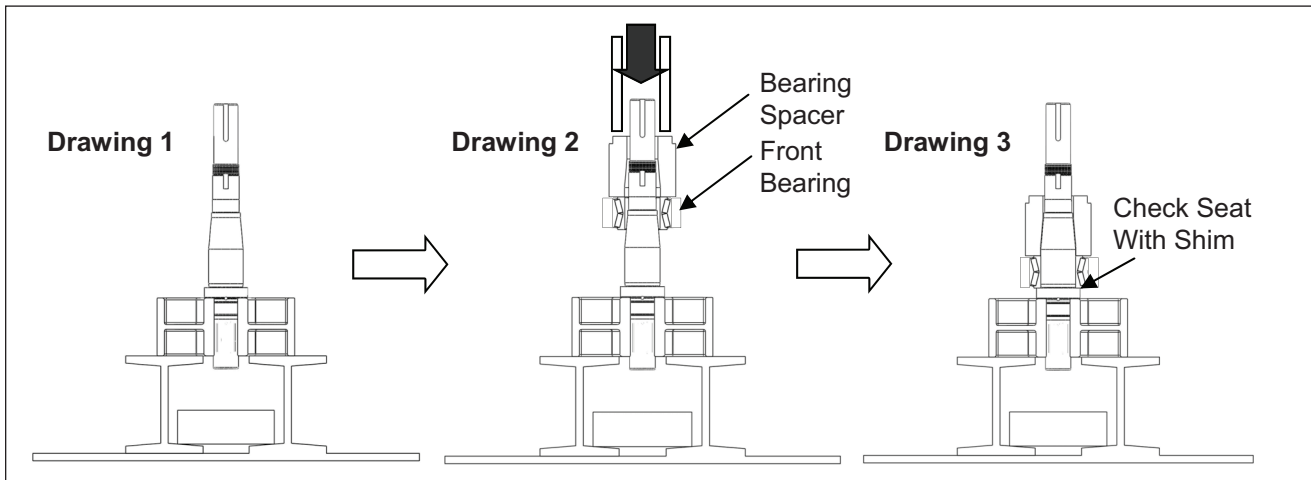

Figure 45. Pressing Front Bearing onto Shaft
1. Clean all reusable parts prior to reassembly. Apply a light coat of lubricant on the shaft area where the front bearing will sit. Position the shaft upright in the press with the splines facing down (Figure 45, Drawing 1). Open the new front bearing assembly and be sure not to interchange any parts. All bearings are manufactured as sets and assembled to have a precise overall length. Place the front bearing over the shaft along with the bearing spacer
(Figure 45, Drawing 2). Make sure the bearing and spacer are aligned before pressing them on. Reference Table 5 for the required force (in tons) needed to press the bearings on to the shafts. Using a sleeve that rests on the bearing spacer and rides over the shaft, press the bearing on until it seats against the shaft shoulder. A shim can be used to ensure that the bearing is fully rested on the shaft shoulder (Figure 45, Drawing 3).